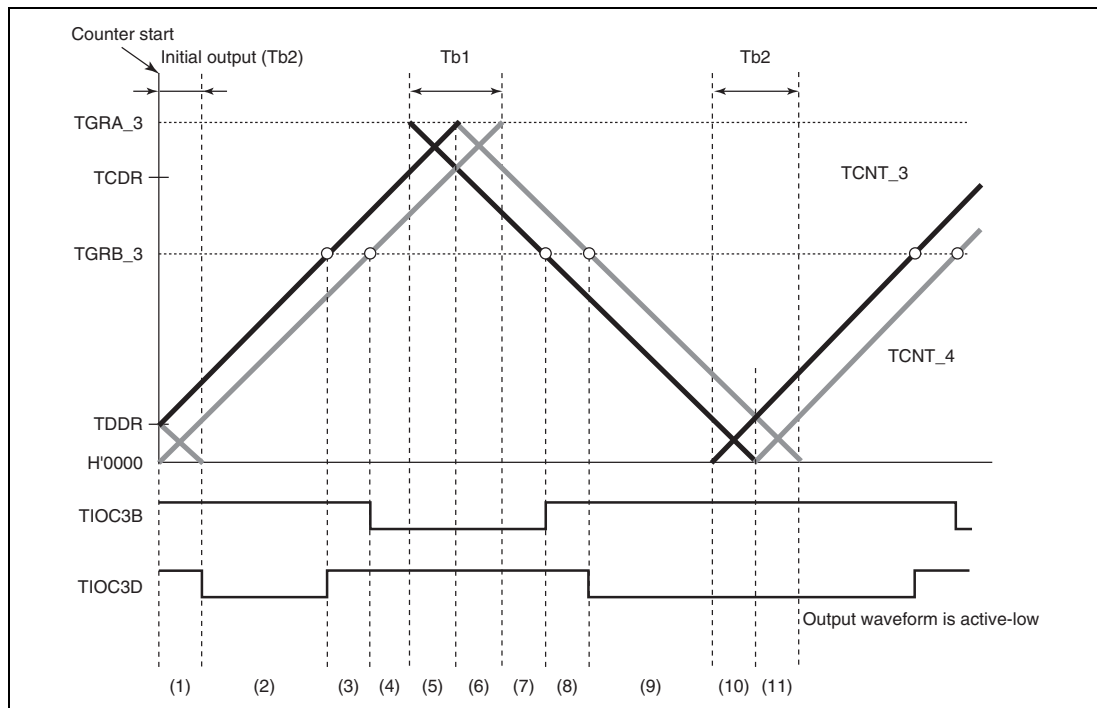
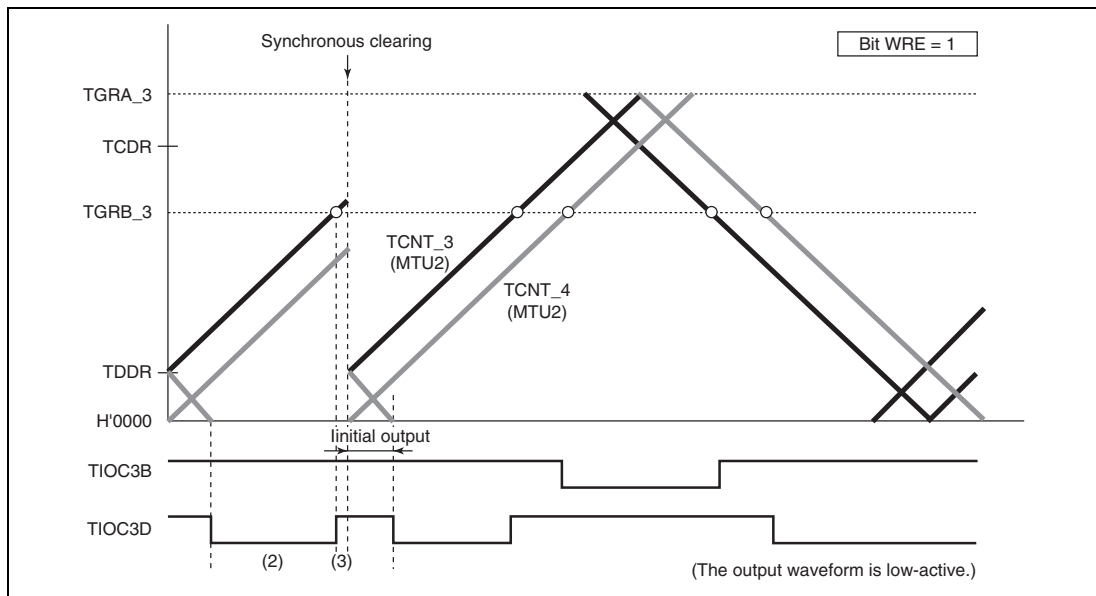
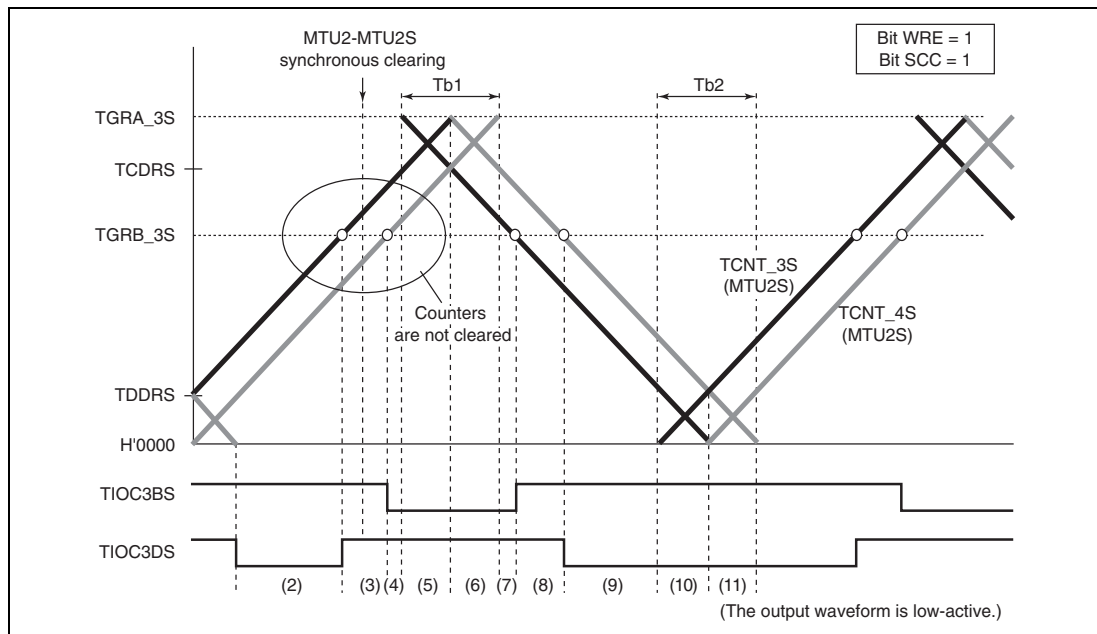

Figure 11.56 Timing for Synchronous Counter Clearing
Figure 11.58 Example of Synchronous Clearing in Dead Time during Up-Counting (Timing (3) in Figure 11.56; Bit WRE of TWCR in MTU2 Is 1)
Figure 11.64 Example of Synchronous Clearing in Dead Time during Up-Counting (Timing (3) in Figure 11.56; Bit WRE Is 1 and Bit SCC Is 1 in TWCRS of MTU2S)
Initial output suppression is applicable only when synchronous clearing occurs in the Tb2 interval as indicated by (10) or (11) in figure 11.56. When synchronous clearing occurs outside that interval, the initial value specified by the OLS bits in TOCR is output. Even in the Tb2 interval, if synchronous clearing occurs in the initial value output period (indicated by (1) in figure 11.56) immediately after the counters start operation, initial value output is not suppressed.
Figures 11.58 to 11.61 show examples of output waveform control in which the MTU2 operates in complementary PWM mode and synchronous counter clearing is generated while the WRE bit in TWCR is set to 1. In the examples shown in figures 11.58 to 11.61, synchronous counter clearing occurs at timing (3), (6), (8), and (11) shown in figure 11.56, respectively.
Figures 11.64 to 11.67 show examples of operation in which the MTU2S operates in complementary PWM mode and MTU2–MTU2S synchronous counter clearing is suppressed by setting the SCC bit in TWCRS in the MTU2S to 1. In the examples shown in figures 11.64 to 11.67, synchronous counter clearing occurs at timing (3), (6), (8), and (11) shown in figure 11.56, respectively.
(Timing (6) in Figure 11.56; Bit WRE Is 1 and Bit SCC Is 1 in TWCRS of MTU2S)
(Timing (11) in Figure 11.56; Bit WRE Is 1 and Bit SCC Is 1 in TWCRS of MTU2S)